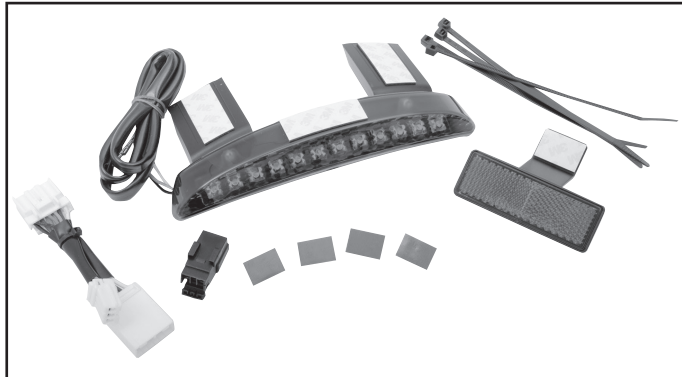

FIGURE 1. FENDER-EDGE LIGHT
4. Test the fit of the fender-edge light into the open end of the rear fender to verify the fender-edge light will properly fit without obstruction, see **FIGURE 1**.
5. Remove the protective tape from the three adhesive pads (A) on the fender-edge light (1).